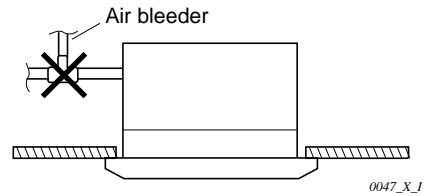

Fig. 3-28
- Do not install air bleeding tubes, as this may cause water to spray from the drain tube outlet. (Fig. 3-28)